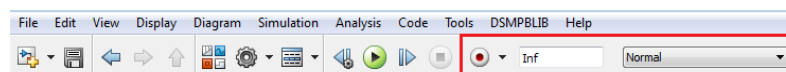

Figure 22: Change of simulation time to 'Inf'
3. The option 'Simulation Time' must be set to 'inf'. This can be done in the option 'Solver' of the 'Model Configuration Parameters' window, or in the box shown in the toolbar of Simulink, as seen in figure 22. This allows ControlDesk to simulate the model for an indefinite amount of time, instead of stopping the simulation at a specific time, as it is done normally in Simulink.